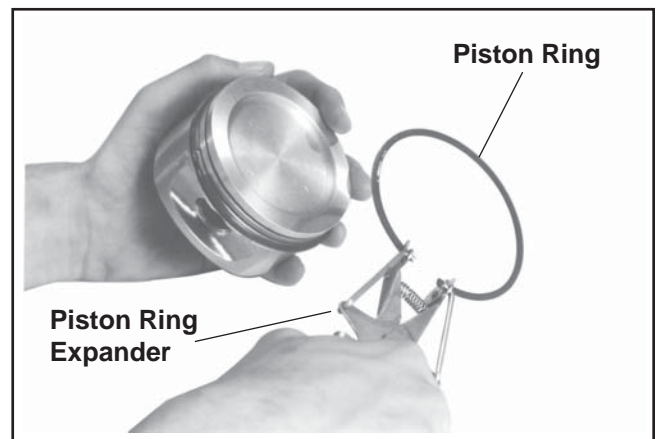

**Figure 9-10. Measuring Piston Ring Side Clearance.**
5. After installing the new compression (top and middle) rings on the piston, check the piston-to-ring side clearance. Compare the clearance to specifications listed in Section 1. If the side clearance is greater than specified, a new piston must be used. Refer to Figure 9-10.